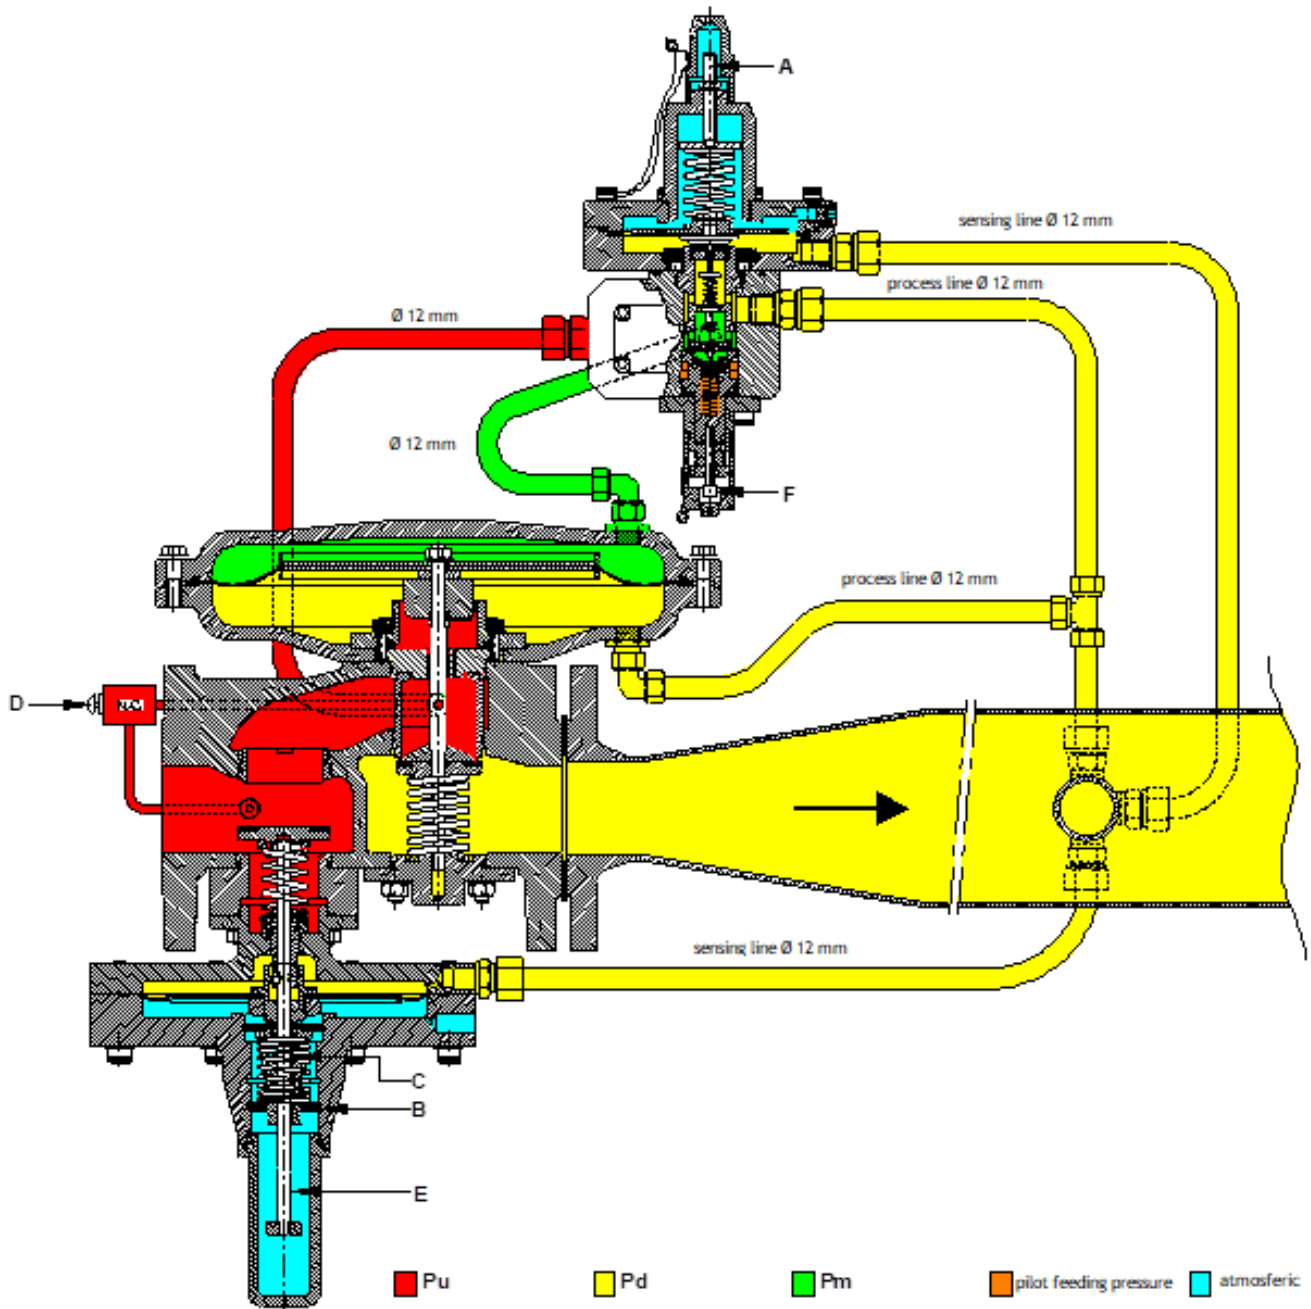

Figure 2
If the inlet pressure P_u is present (increase the pressure slowly), the pressure difference over the safety shut-off valve can be slowly released by actuating the pressure equalization valve on the body of the gas pressure regulator (see figure 2, item D).
The schematic cross-sectional area of the gas pressure regulator (figure 2) indicates the positions of the controls by which the gas pressure regulator can be set or operated.
The response value of the minimum pressure protection, if any, is a fixed value (see label). If an existing minimum pressure relief valve is undesirable, it can be deactivated by removing the minimum spring (see C in figure 2). This can be accomplished by fully unscrewing the underlying bushing, removing the spring, and fully turning the bushing back in again.
Adjusting the pilot can be carried out once the regulator has been put into operation (see chapter 3). The pilot of the RS350S has only **one** setting at which the operation is optimal. This setting is within about half a turn of the adjusting device “F” (see figure 2) relative to the zero point at which the pilot regulator is set at the factory.
- Pressurize the regulator. Check the pilot feeding pressure when “A” (see figure 2) is screwed in (Pilot delivers pilot pressure), and when “A” is fully screwed out (closing pressure pilot). The measured values shall correspond respectively to 300 mbar ± 50 mbar.